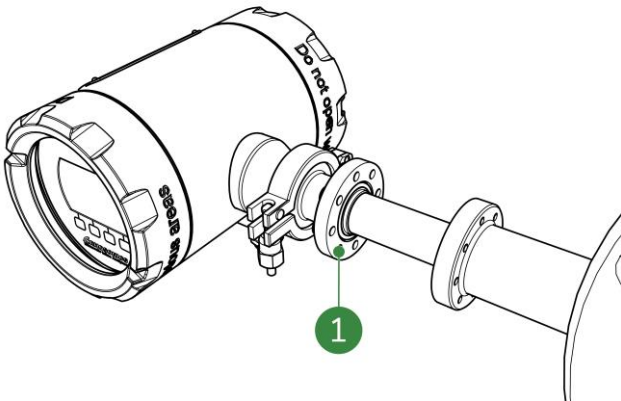

Figure 5-12: Aligning screw holes
5. Gently slide (as straight as possible) the SDM into the pipe integration system and align the screw holes of both flanges (Figure 5-12). Choose the position in such a way that the display is easy to be read.